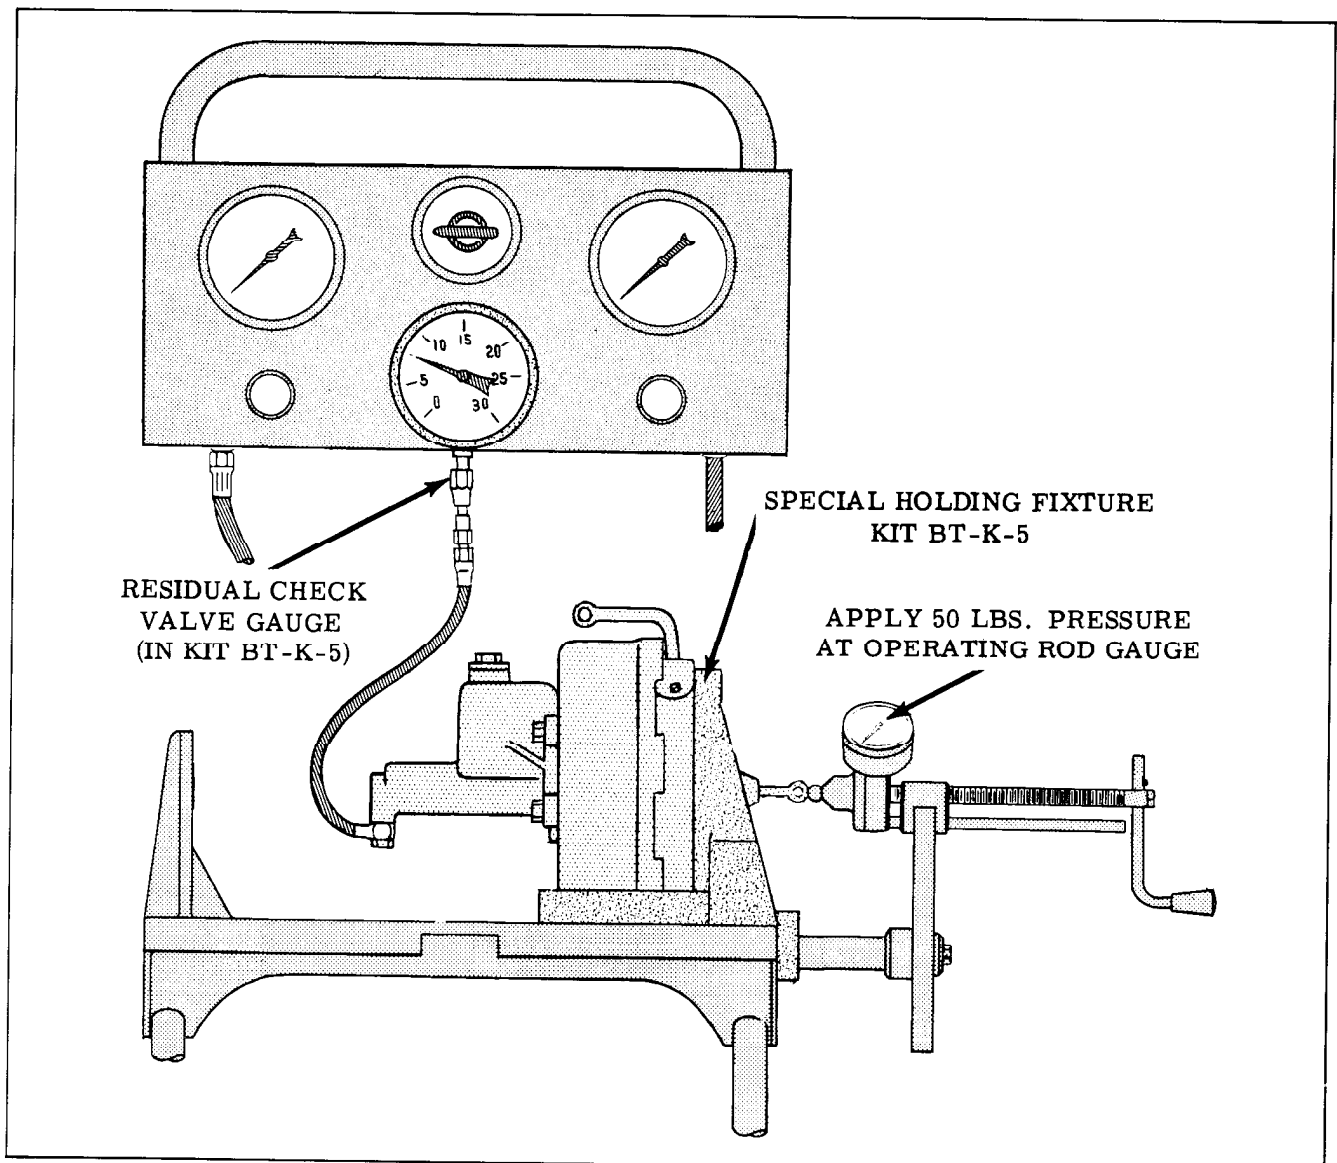

Fig. 7-38 Checking Residual Check Valve
1. With tester hoses connected as shown in Fig. 7-38, open the vacuum gauge valve. With the engine on slow idle, the gauge, should read 19" to 21".
1. Hook up gauge as shown in Fig. 7-38.